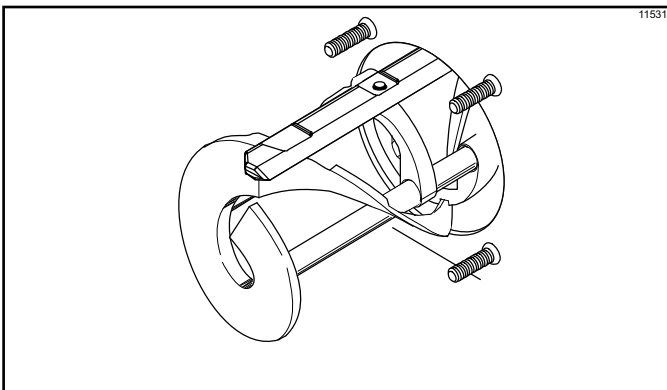

Figure 6-5
7. Holding the rear blade on the beater, slide it into the freezing cylinder halfway. Install the front scraper blade over the front holding pin. (See Figure 6-5.)